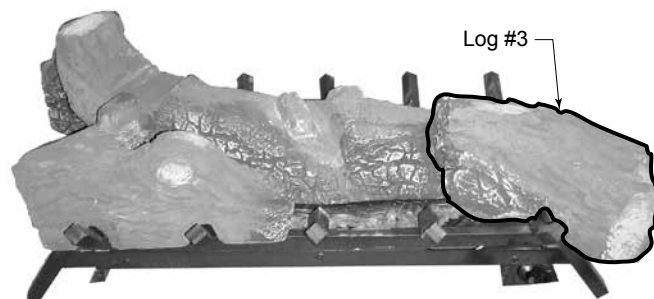

Figure 5.3 - Place Log #3
3. Place log #3 on farthest right grate tine by aligning the 'V' notch in log with grate tine. The groove in the bottom of the log should sit on the filler bracket surrounding the pilot assembly. *Figure 5.3*